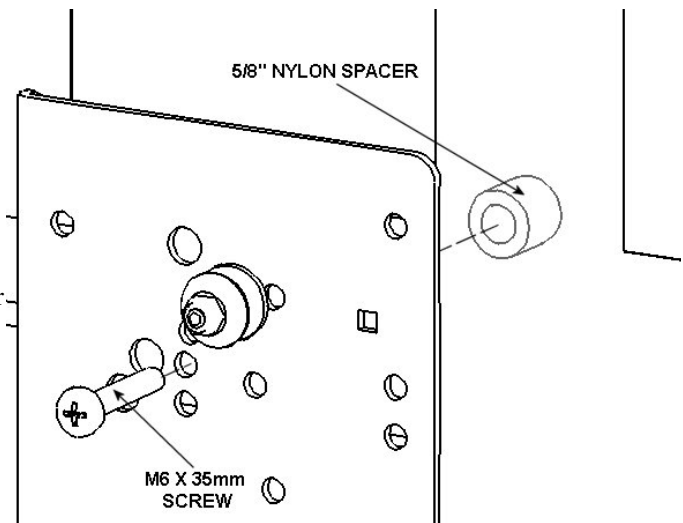
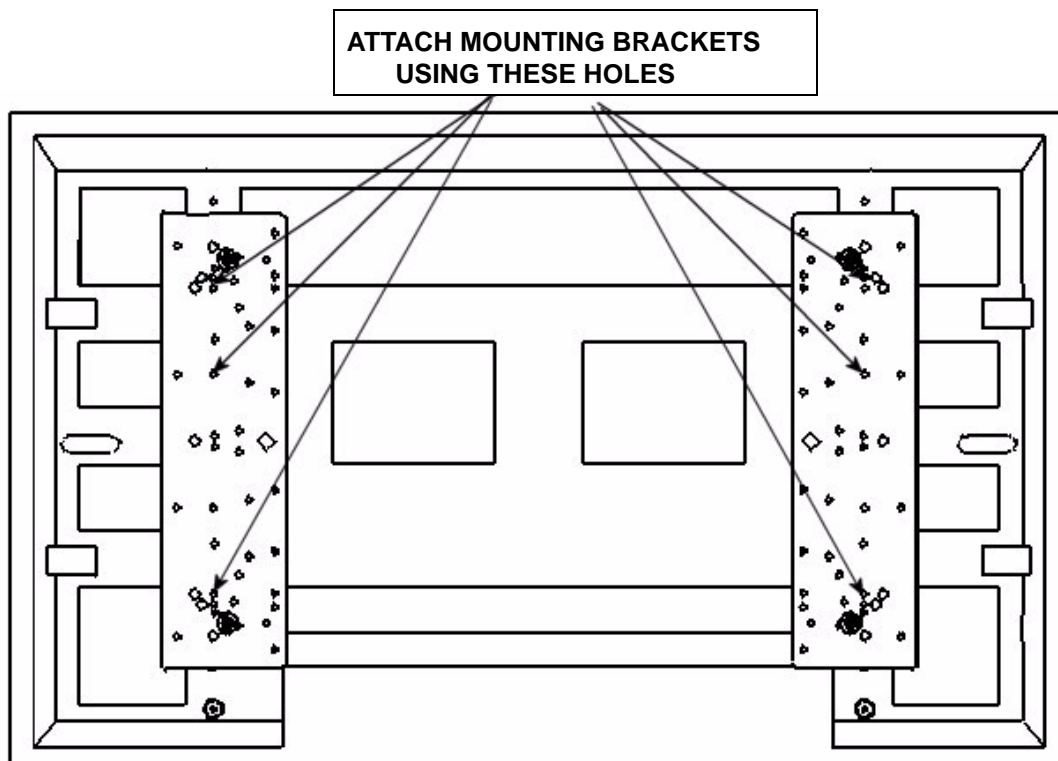

Figure 13. Spacer Installation for Group 5
Figure 14. Bracket Attachment for Group 5
4. Place the interface brackets over the Nylon spacers (see Figure 13 and Figure 14).
6. Using the hardware in the parts bag labeled C, attach the interface brackets to your display in the proper holes in each interface bracket (See Figure 13 and Figure 14). Do not overtighten the mounting screws.